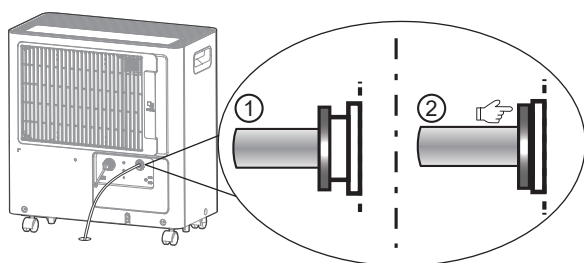

Fig. 6
- Press the tightening ring of drainage joint (as shown as Fig. 6);